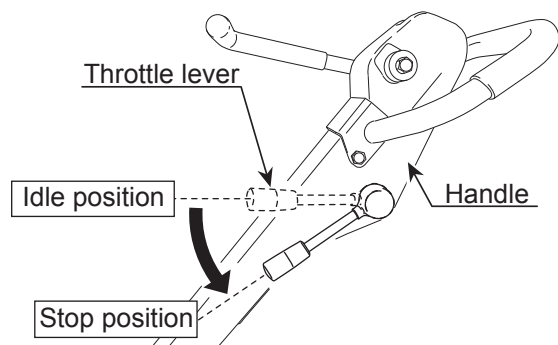

Figure 19. Throttle Lever (Stop Position)
2. Move the throttle lever (Figure 19) to the "Stop" position to stop the engine. The buzzer will sound.